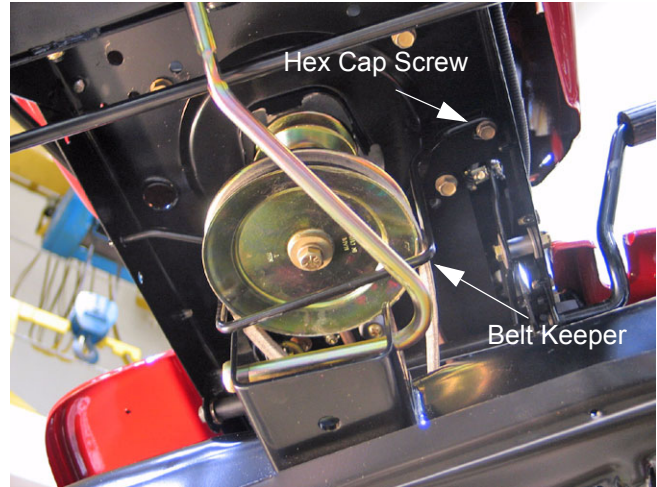

Figure 3
- 1.5. Using a 1/2" socket, remove the hex head cap screw securing the belt keeper to the frame. Remove the belt keeper. See Figure 3.